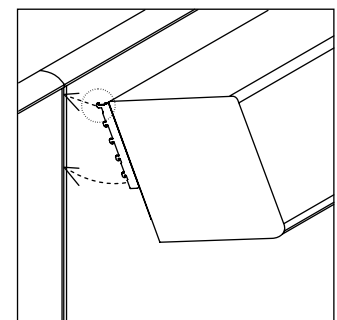

FIG. 5
7. Place the shelf/door assembly (with the end slots and door as shown in Figure 5) over the front upper set of screws (Figure 6). Push the shelf/door assembly back so the rear shelf slots slide over the rear set of screws (Figure 7).
8. Tighten all (4) screws on each end panel to secure the shelves.
1. Decide on the panel height where you want to locate the overhead unit. Holding the front edge of the overhead unit higher than the rear edge (Figure 5), slide the top safety teeth into the appropriate slots on the panel trimrails.